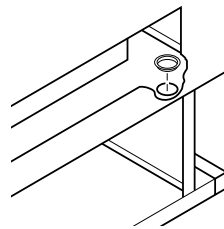

Figure 14 - Installing Bushing
5. Install one plastic bushing provided in blower kit into the 1 1/2" hole in the left rear of firebox floor. Access hole through the rectangular opening in the rear panel (see Figure 14).